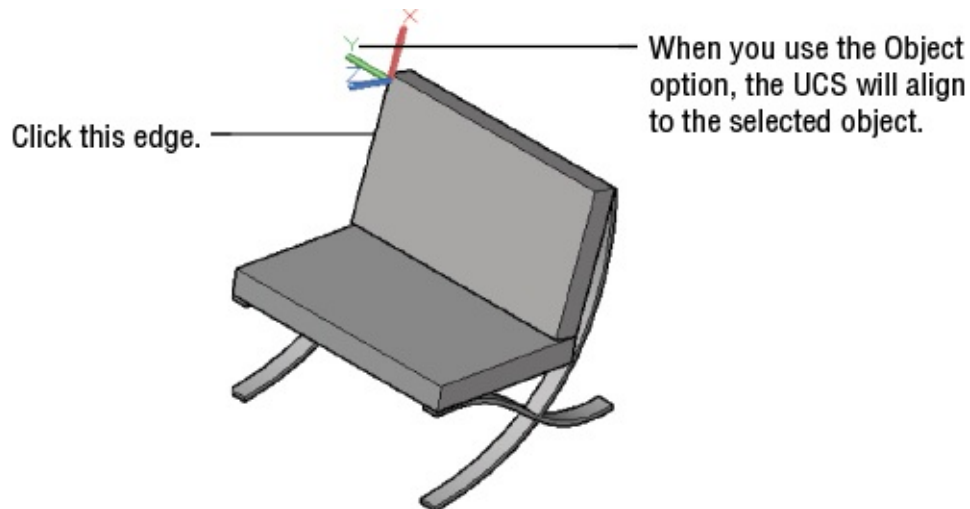

FIGURE 21.12 Using the Object option of the UCS command to locate a UCS
2. At the **Select object to align UCS:** prompt, pick the object that you want to use to define the UCS. For example, you could click a 3D solid that you want to edit. The UCS icon shifts to reflect the new coordinate system's orientation. Figure 21.12 shows an example of using the OB option to select the edge of the chair back.